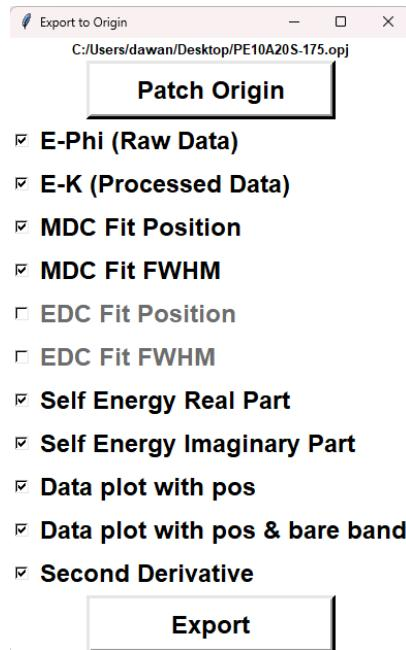

Figure 3.18: Graph Export Interface for Export to Origin
- **Export to Origin:** Export the graph to **OriginPro**, enabling users to do further analysis or editing. [Figure 3.18] The graph and the data will be exported to a .opj file, which can be opened by **OriginPro**. All the parameters of the experimental data and the variables set by **Argument Setter** will be recorded in the Data Information Note. The reason why using .opj file is that the later version of **OriginPro** is still compatible with the older version while the older version of **OriginPro** is not compatible with the later format (.opju). However, export the data to a later project format is available by modifying the script.